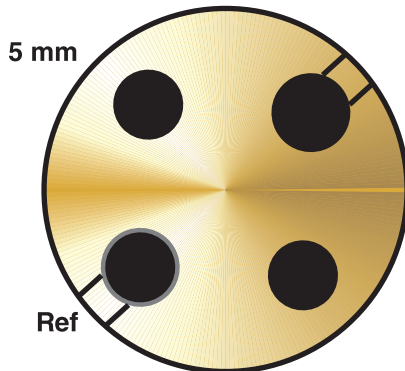

Figure 20 PRT and insert orientation during heat source calibration.
The calibration insert (Hart Model 914x-INSG) must be oriented as indicated in Figure 20. The Axial Gradient Test requires the use of one reference standard, ¼ “ PRT, and a secondary PRT with a sensor length 5 mm or less. The reference standard is inserted the full-depth of the well in the position indicated in Figure 20. The secondary PRT is inserted the full-depth of the well in the position indicated in Figure 20.
2. Insert the 5 mm PRT the full –depth (0 mm) as indicated in Figure 20.
The Stability Test requires the use of one reference standard – primary reference standard – which is inserted into a full-depth hole in the calibration insert. The reference standard should be oriented with the calibration insert as indicated in Figure 20.